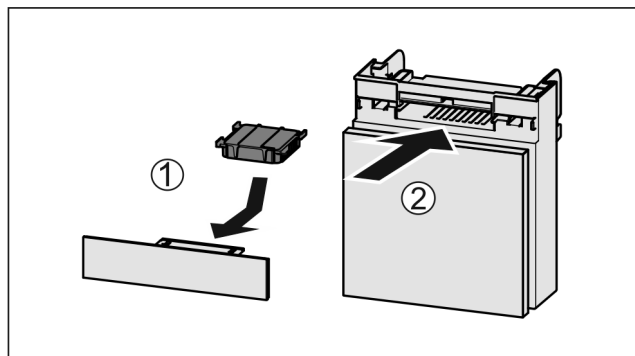

Fig. 103
- Insert the carbon filter as shown in the diagram Fig. 103 (1).
- Push the compartment in Fig. 103 (2).